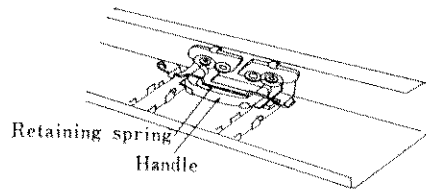

Fig. 24
6. Place the carriage handle on the sinker plate and set by retaining spring. (See Fig. 24)